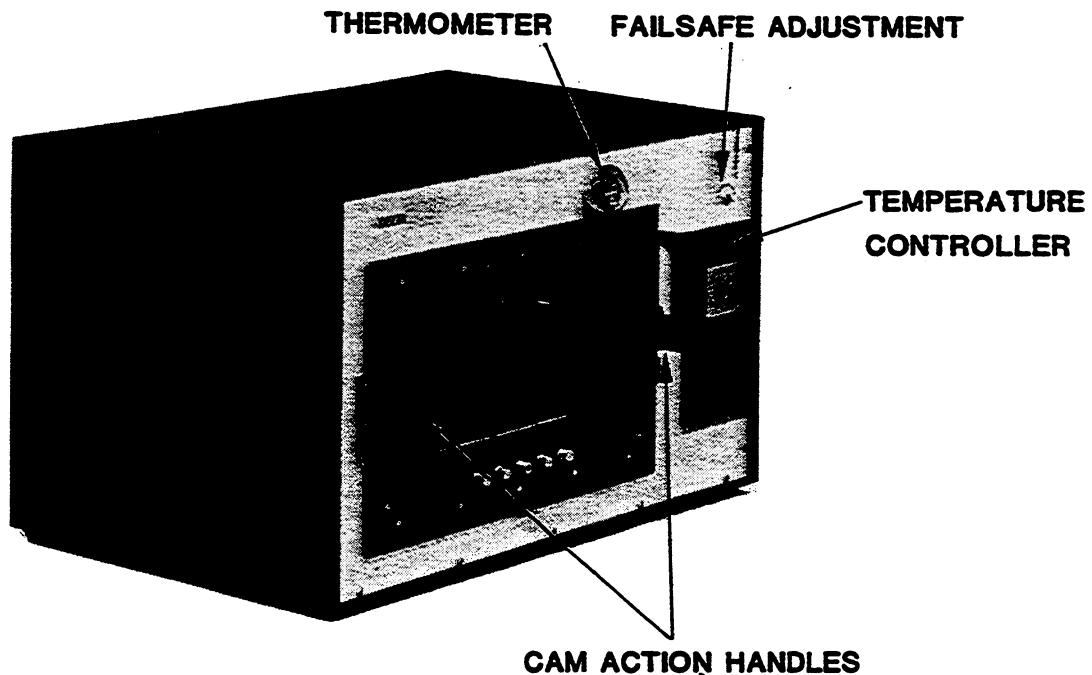

Figure 3-1. Chamber Controls and Indicators
Chamber controls and indicators are shown in Figure 3-1. Operation of the chamber is programmed using the 9010 Temperature Controller. Instructions for controller use are provided in Chapter 5 of this manual. The Model 9080 chamber has a separate manual.
- 3.3.1** Rotate the slotted FAILSAFE control counterclockwise to raise the trip temperature. Rotate the control clockwise to lower the trip temperature (reference Figure 3-1 for location).